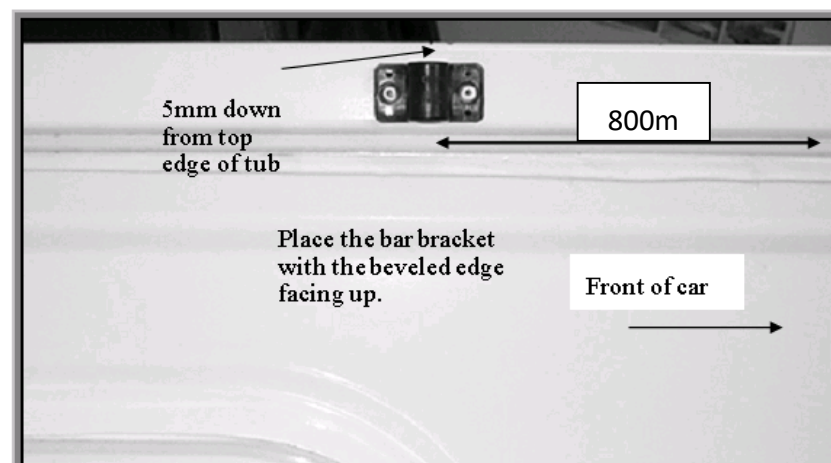

Figure 2: Placement of bar bracket
2. Rest the aluminium rope track on the side rails as Shown in **Figure 2**, and push forward to the vertical face of the tub (2).
5. To fit bar brackets measure 800 mm from the inside edge at the front of the tub and place them as shown in Figure 2 (5mm down from top edge of tub). Drill and rivet, using 4 rivets. Install bar according to supplied instructions.